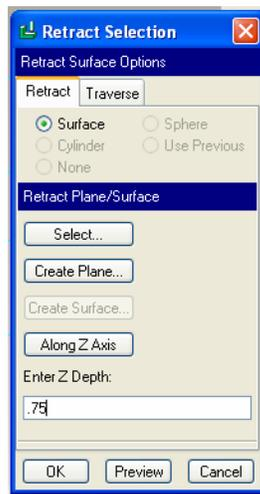

Figure 7d: Retract Selection dialog box
Step 12: Once the Manufacturing Parameters menu is closed, the Retract Selection Dialog box appears. Select **ALONG Z AXIS** on the Retract Selection dialog box. (Figure 7d)